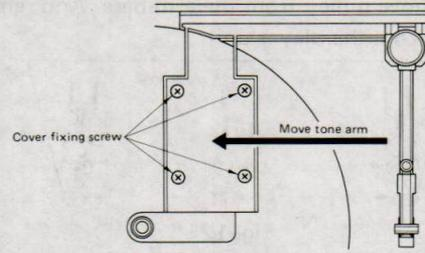

Fig. 9
- 3) Remove nine set screws (T1-3 x 12) and remove the back. Remove four screws (T1-3 x10) to remove cover (Fig. 9) under red this the turntable. Then hold the base of tone arm and move the tone arm toward the centre shaft.